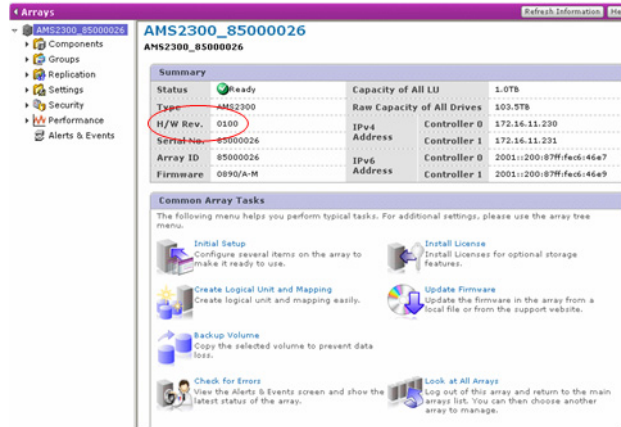

Figure 10-5: AMS 2300 Arrays Screen with 0100 Hardware Revision
- The hardware revision can be displayed when an individual array is selected from the Arrays list using the Navigator version 9.00 as shown in Figure 10-5: